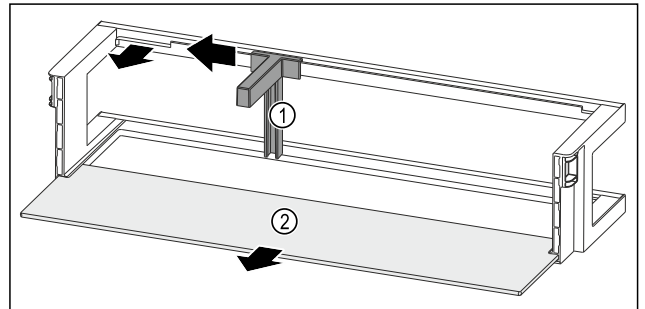

Fig. 164 Door rack with bottle holder and shelf
- ▶ Slide the bottle holder Fig. 164 (1) to the side as far as the recess.
- ▶ Remove the bottle holder Fig. 164 (1).
- ▶ Remove the shelf Fig. 164 (2).